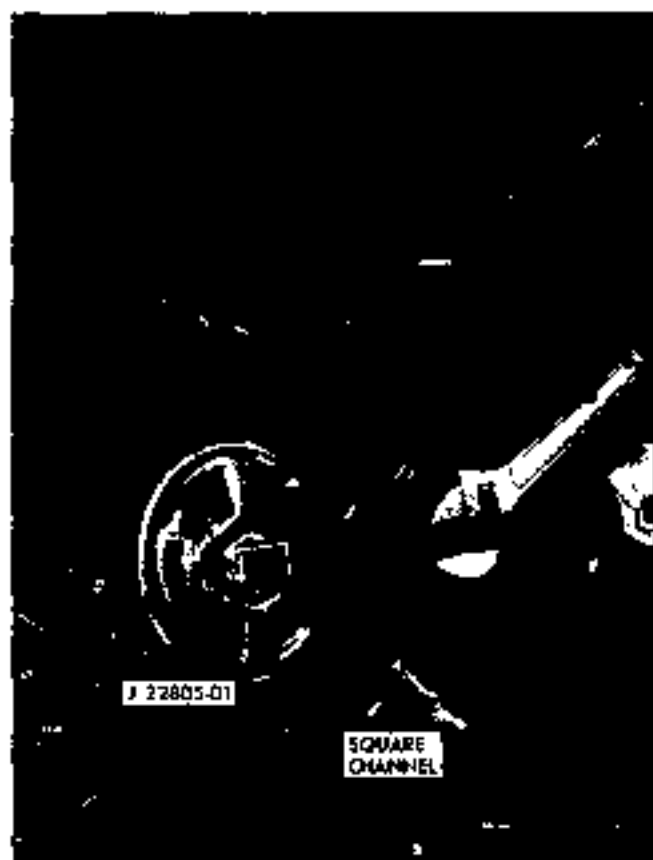

Fig. 5A-4 Removing Front Housing
12. Press air valve from power piston hub using rod not exceeding 1/2" diameter. Removal of valve releases floating control valve, floating valve retainer, push rod limiter washer and air filter materials (Fig. 5A-12).
MASTER CYLINDER - DISASSEMBLE (Fig. 5A-13)